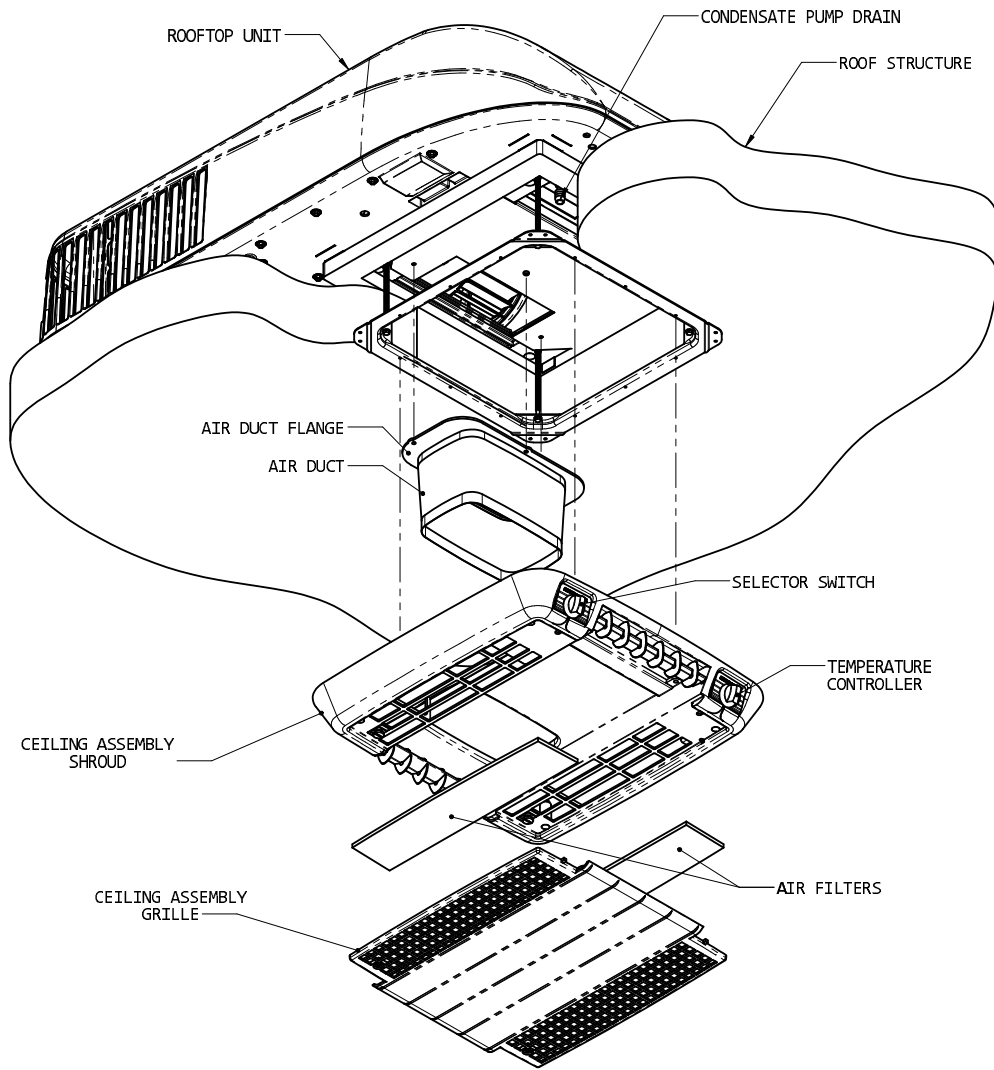

**FIGURE 9**
- D. Fold and break off the 3 tabs around the inner opening of the duct collar, then fasten the duct collar to the basepan of the air conditioner with three (3) screws (See Figure 9).
- I. Raise the ceiling assembly and secure to the mounting frame with 4 provided shoulder screw/spring assemblies. The front two screws should pass through the clearance holes in the metal control box shield (See Figure 9).